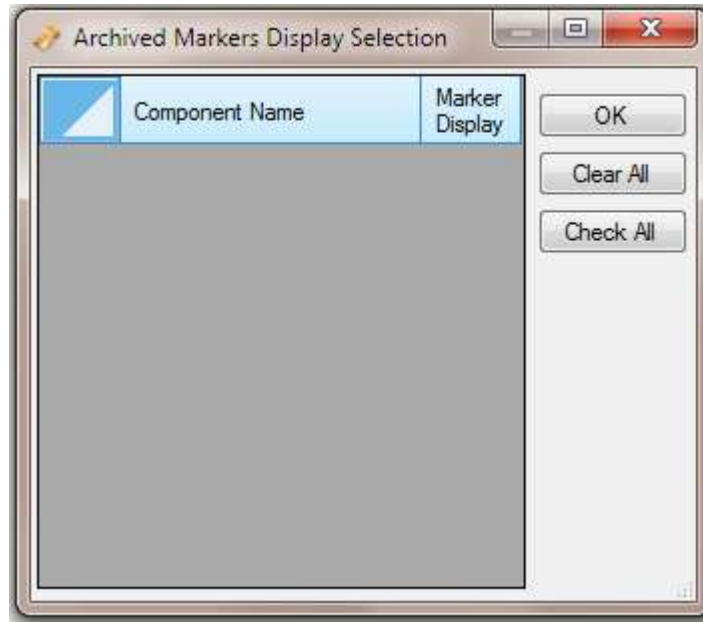

Figure 4-26: Archived Markers Display Selection Dialog Box
- h) *Archive Markers Command* - The *Archive Markers* command presents the *Archived Markers Display Selection* display box (Figure 4-26).